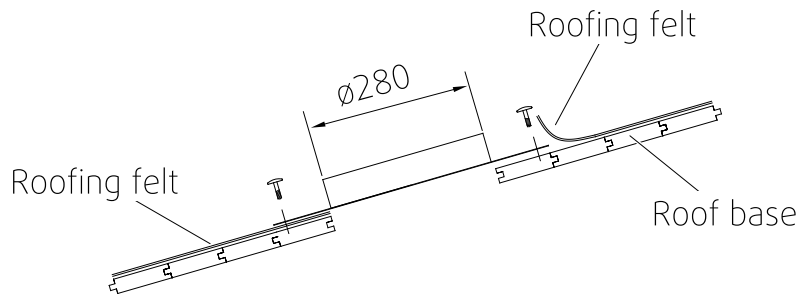

Fig. 4
3. Fix the TUB to the roof base with nails or screws, figure 4.